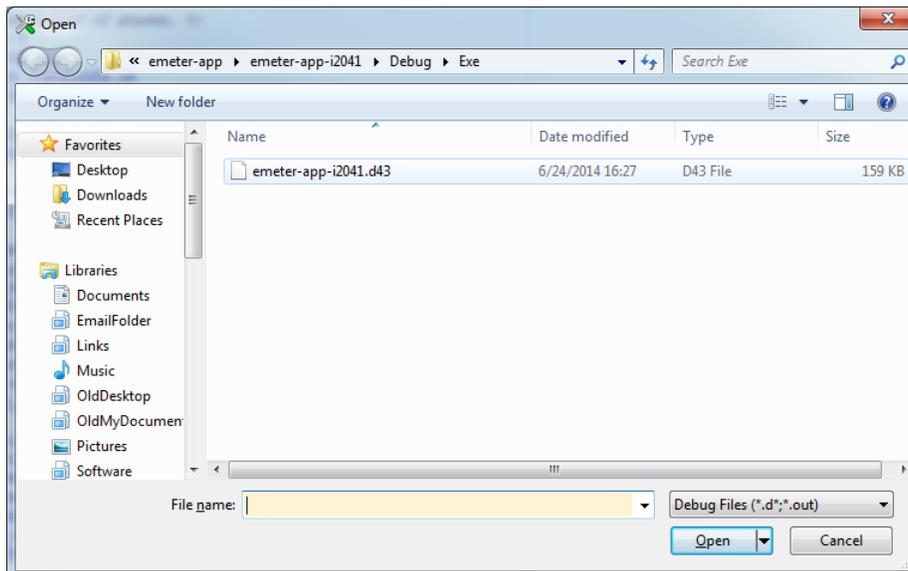

Figure 34. Select File to Download
3. When prompted to select a file, go to the folder [Submeter i2040 8k\_DC\_THD\_AUTO\_OSR\_IAR5.5]emeter-app\emeter-app-i2041\Debug\Exe and select the file named “emeter-app-i2041.d43” (Figure 34).